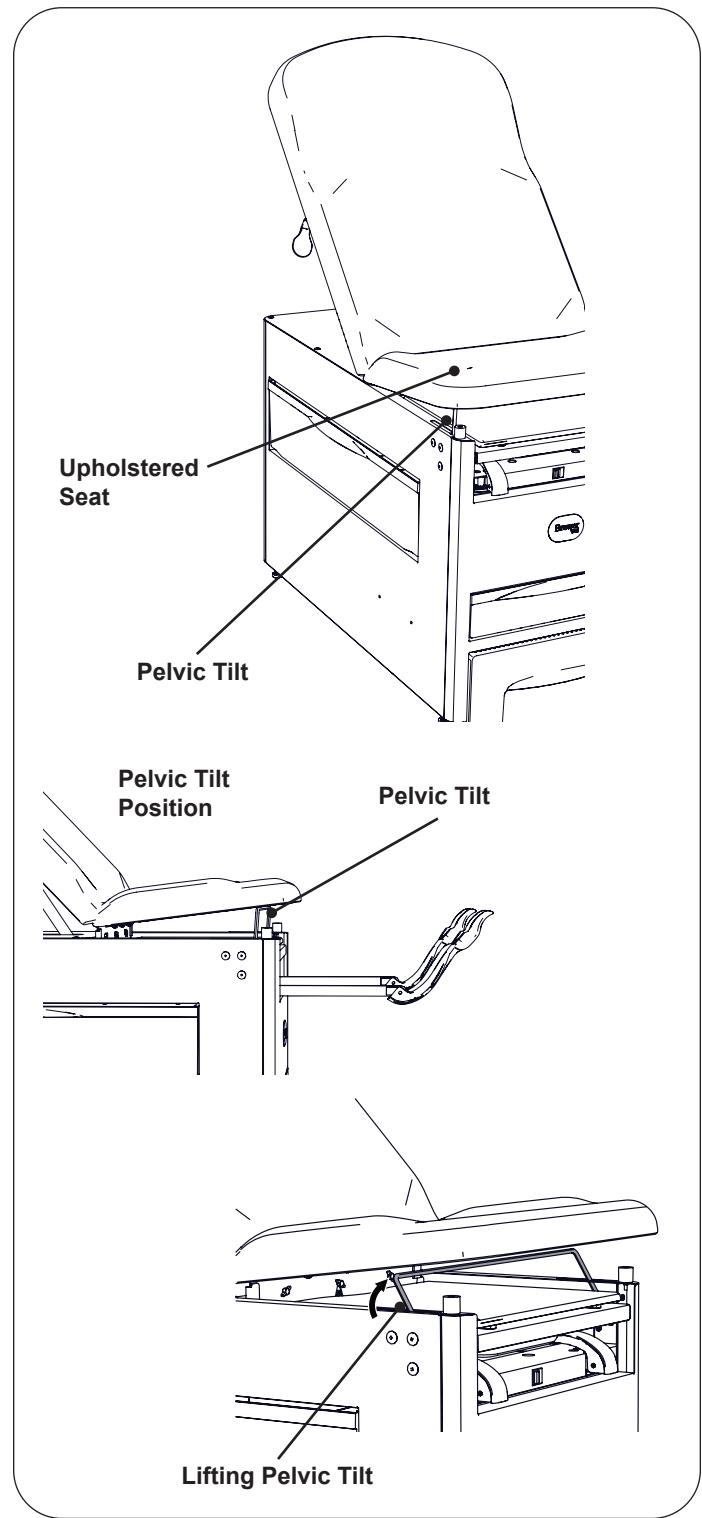

Figure 16. Pelvic Tilt Support Bar
1. Raise the front edge of the upholstered seat (Figure 16). Rotate the pelvic tilt support bar upward to its full upright position.